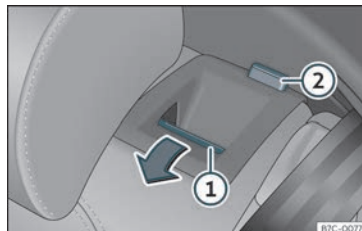

Fig. 111 Rear seat: folding the backrest.
- Press the unlock button»» **Fig. 111** ① forwards and at the same time fold the backrest down. The rear seat backrest is not engaged when the red marking of the button ② is visible.
The rear seat backrest is not engaged when the red marking of the button»» Fig. 111 ② is visible.